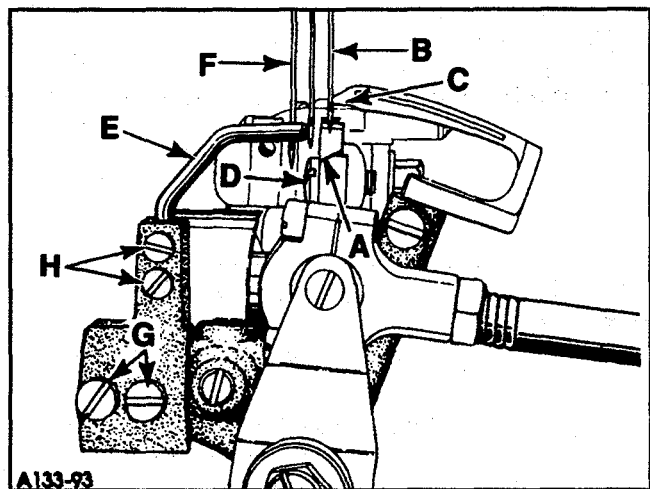

FIG. 14
At extreme forward end of travel, rear needle guard (A, Fig. 14) must be set horizontally not to contact rear of right needle (B) with a maximum clearance of .005" (.13 mm). Guard should be set as low as possible, yet have its vertical face approach approximately 3/64" (1.2mm) above needle point until point of looper (C), moving to the left, is even with the needle. Adjustment can be made by loosening screw (D), reposition guard as required and retighten screw.
Front needle guard (E, Fig. 14) should be set as low as possible, yet push the left needle (F) towards the path of looper (C) until point of looper passes to the rear and left side of needle. Looper may brush but not pick at the left needle. Front needle guard should not make contact with rear needle guard or right needle at any time. Forward or rearward adjustments can be made by loosening screws (G), reposition guard as required and retighten screws. Height or rotation of guard can be acquired by loosening screws (H), reposition as required and retighten screws.